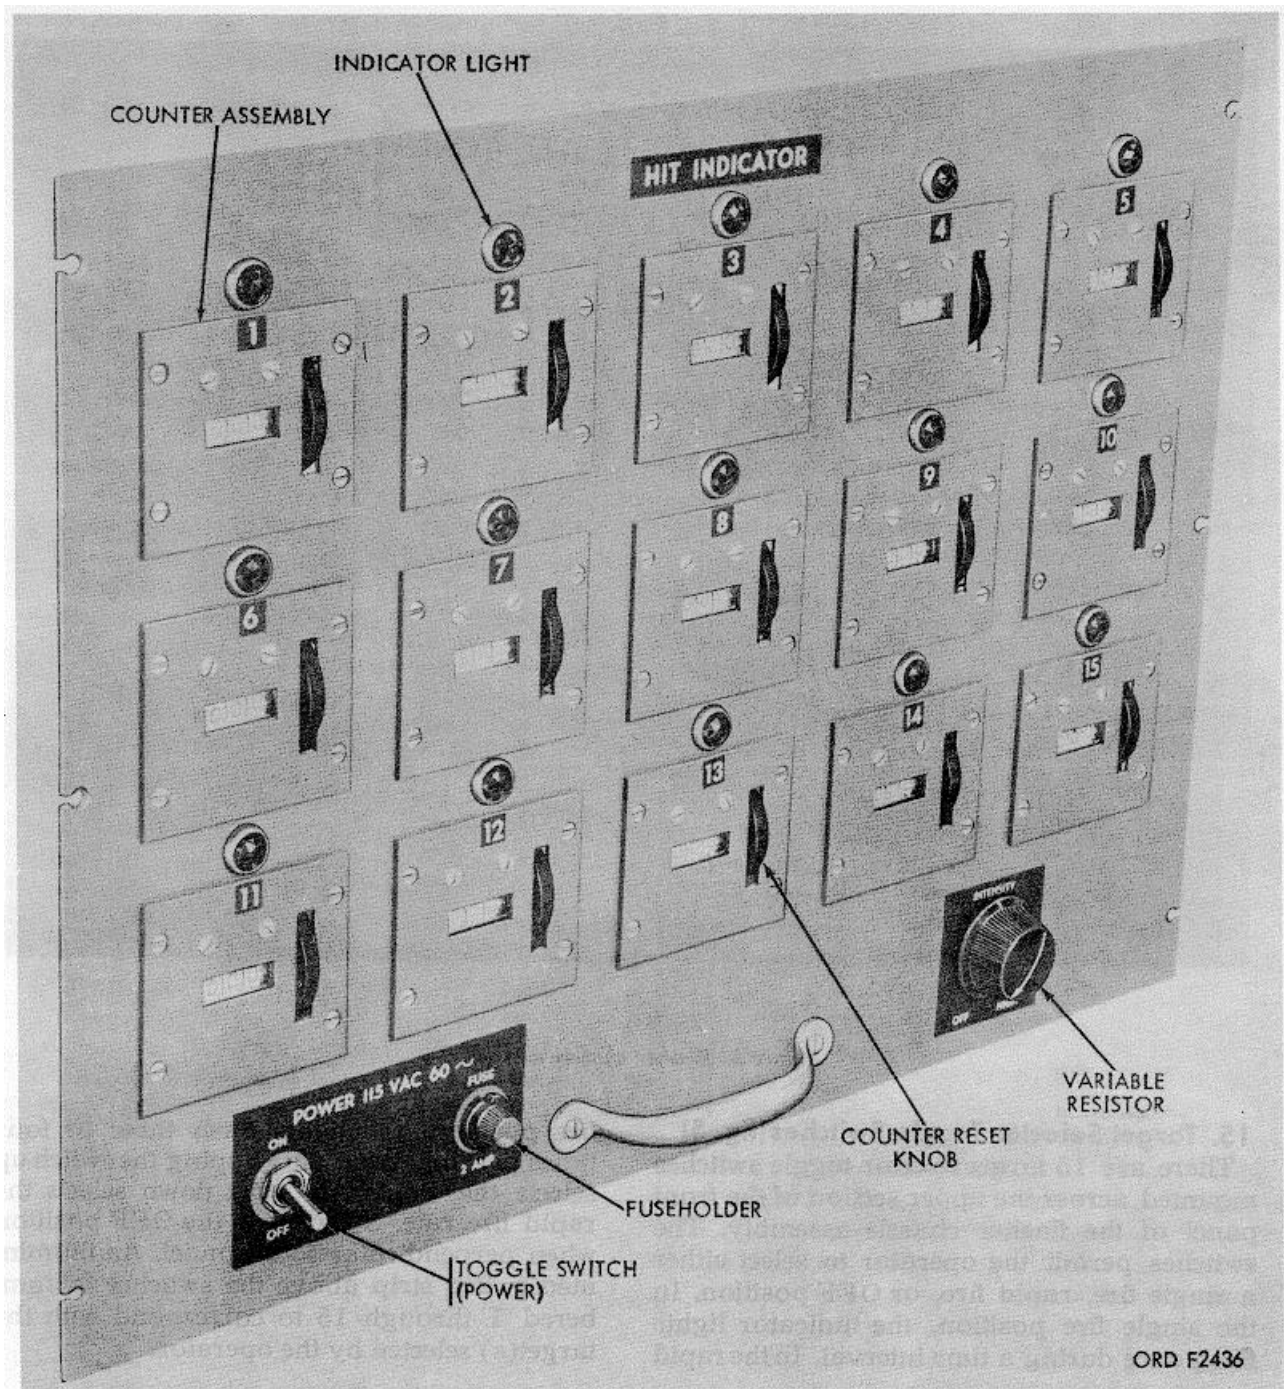

Figure 4. Counter chassis assembly.
10. Counter Assemblies (fig. 4)
11. Indicator Lights (fig. 4)
12. Power Toggle Switches (figs. 4 and 5)
13. Variable Resistors (figs. 4 and 5)
14. Fuseholders (figs. 4 and 5)